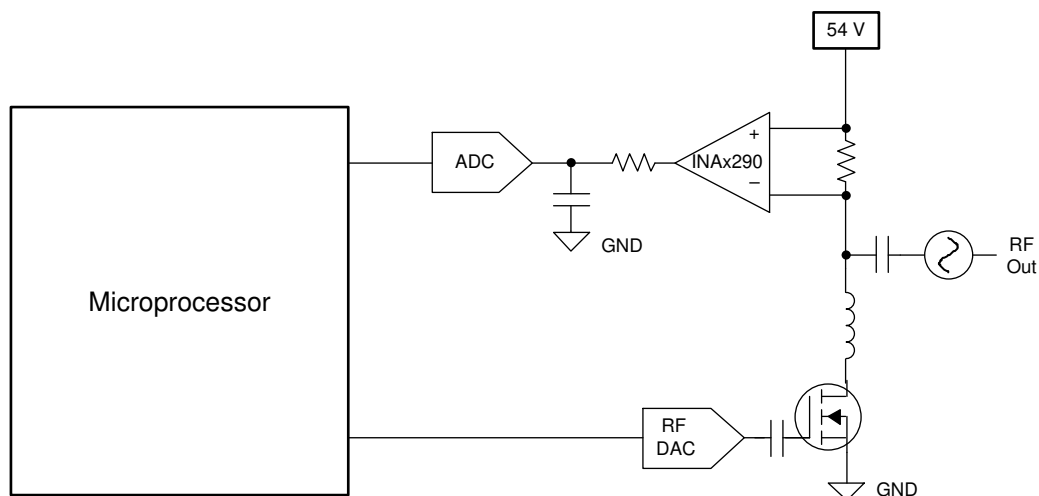

Figure 8-2. Current Sensing in a PA Application (Single-Channel Device)
The INAx290 is a unidirectional, current-sense amplifier capable of measuring currents through a resistive shunt with shunt common-mode voltages from 2.7 V to 120 V. Figure 8-2 shows the circuit configuration for monitoring current in a high-side radio frequency (RF) power amplifier (PA) application.